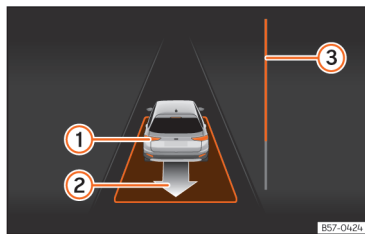

Fig. 143 On the instrument panel display: driving off from perpendicular parking.
- Reverse until the continuous ParkPilot signal sounds; **OR**: reverse until the instrument panel display shows the forward indication. The progress bar ③ >>> Fig. 143 indicates the distance to cover.
- Press the brake pedal until the parking assist system completes the steering wheel turns; **OR**: press the brake pedal until the symbol (S) goes out on the instrument panel screen.